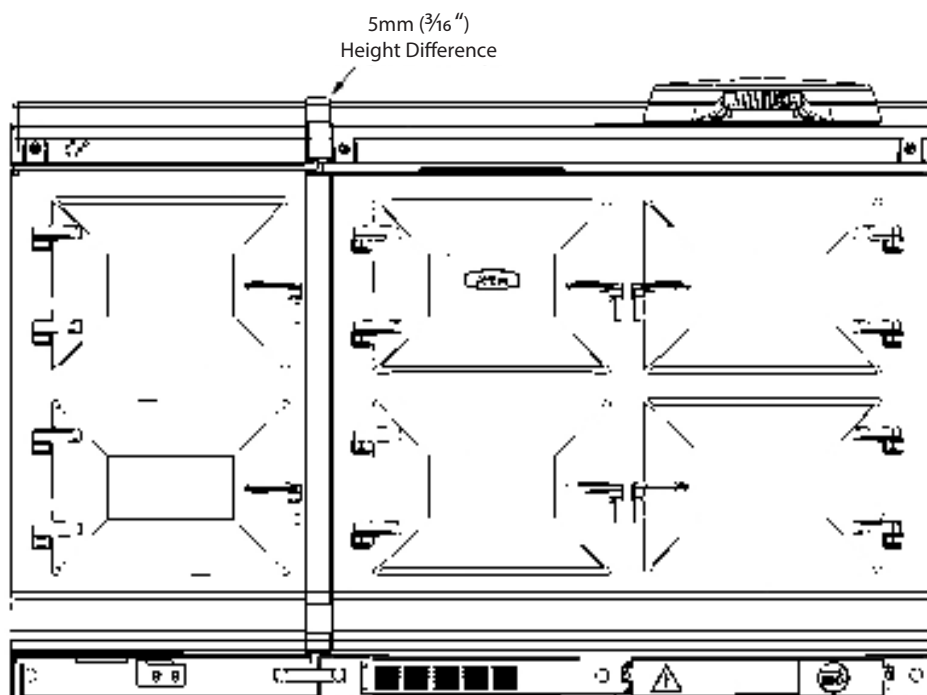

Fig. 5.8
7. The hotcupboard top plate is set $\frac{3}{16}$ " (5mm) higher than the AGA eR7i top plate. This is to prevent damage to the enamel during installation. Lower the top plate using the adjusters (**Fig. 5.8** and **Fig. 5.9**).